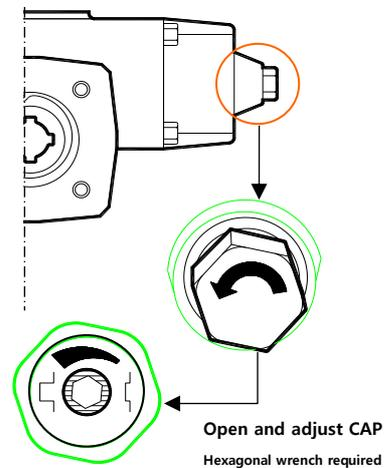

Figure 3.8 [F/O Stroke Limiter]
- 2) If the valve does not fully open even after pressing the OPEN button on the MHPWS-QNN, close the MHPWS-QNN valve slightly, then loosen the plug cap on the opening side of the hydraulic cylinder as shown in **Figure 3.8**, and turn the stroke limiter counterclockwise.